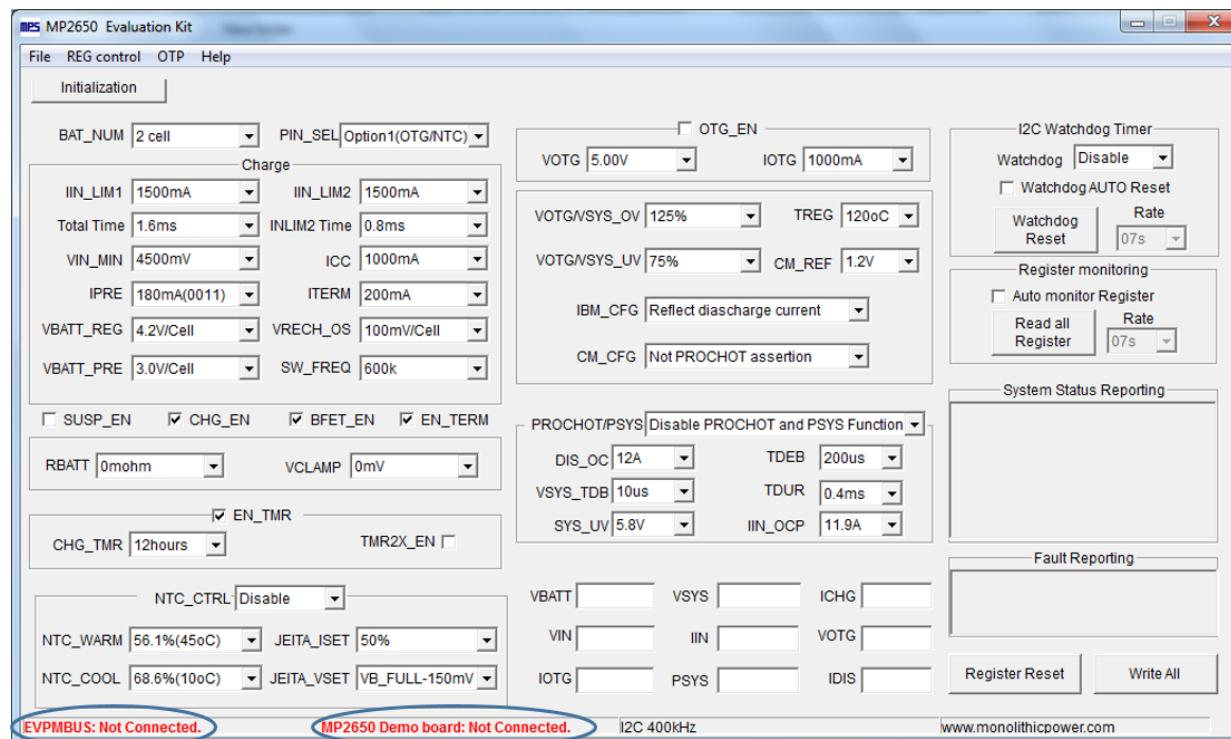

Figure 3: MP2650 Evaluation Software
4. Turn the computer on and launch the MP2650 evaluation software. The main software window should appear (see Figure 3 on page 5).